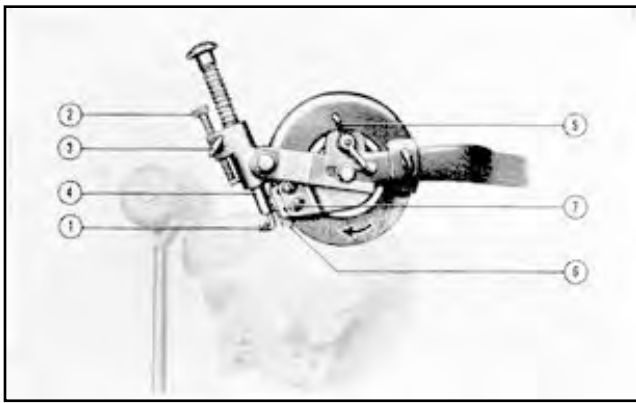

Fig. 8
17. Feed Control Screw. (see fig. 8) The hook, which holds the grinding unit in position with relation to the reel blades, is adjustable vertically by the feed control screw No.2. A thumb screw No.3 locks the feed control screw after it has positioned the hook or has increased the feed while grinding. The hook is removable or can be adjusted in or out to increase the range of the feed control screw. The hook is held in place by an alien set screw.
20. Finger Point and Spreader Assembly (see fig. 8) To compensate for the reduction in diameter of the grinding wheel, the finger point screws No.7 are loosened to permit the finger point No.6 to be moved closer to the wheel. The finger point should be as close as possible without touching.